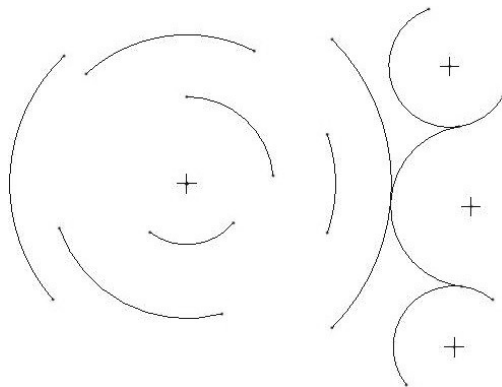

Figure 3-35 Arcs
Step31: Use  to create an arc, then use  to create six additional concentric arcs as shown on the left in Figure 3-35.
Step32: Use  to create the upper and lower right most arcs in Figure 3-35.
Step33: Use  to draw the arc that is tangent to three different arcs as shown in Figure 3-35.